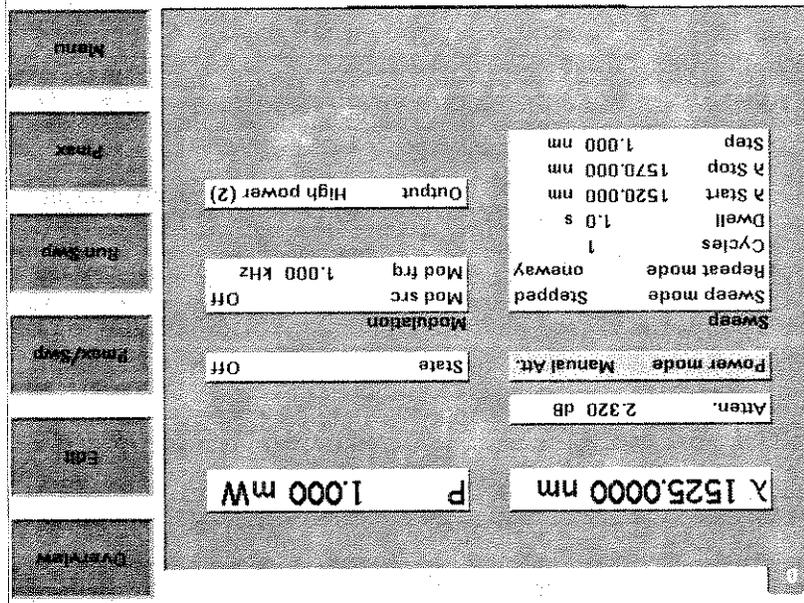

Figure 63 Setting Attenuation
- b Move to <Manual Att.> and press Enter. The attenuation parameter, [Atten.], appears, see Figure 63.